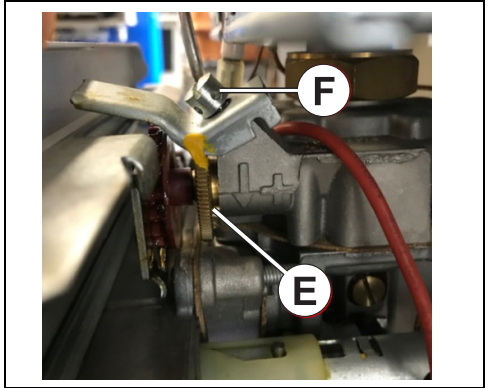

Fig. 11 Burner pressure adjustment
- ▶ Adjust burner pressure to slightly below the burner pressure figure on the data plate (table 8). Loosen the locking screw (Fig. 11 [F]), and turn the knurled adjustment wheel (Fig. 11 [E]) clockwise to increase, or anticlockwise to decrease the pressure.
- ▶ Tighten locking screw of knurled adjustment wheel (Fig. 11[F]).